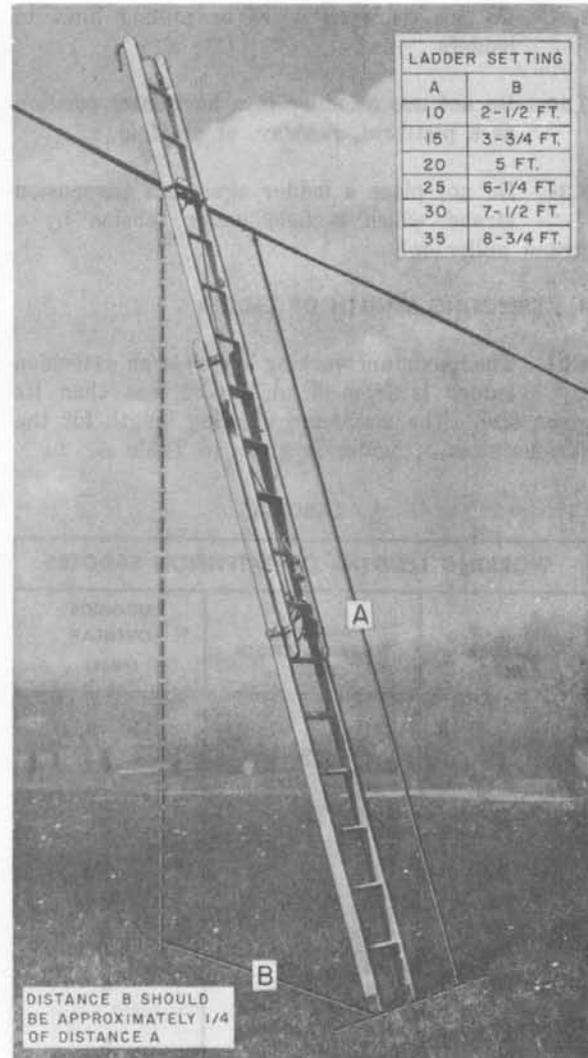

**Fig. 3—Ladder Placed Against Wall**
5.01 Use care in positioning ladders before climbing them. Place the foot of the ladder on the ground or other firm support so that distance B (Fig. 3 and 4) from the base of the ladder to a line extended vertically from the top support is approximately one-fourth of the length of the ladder measured from top support to bottom support. If distance B is greatly exceeded, there is danger of imposing excessive stresses on the ladder. If distance B is considerably less than one-fourth of distance A, the ladder will be pitched so steeply that the work cannot be done safely. In any case if the base of the ladder is likely to slip, the ladder shall be braced, fastened, or securely held.